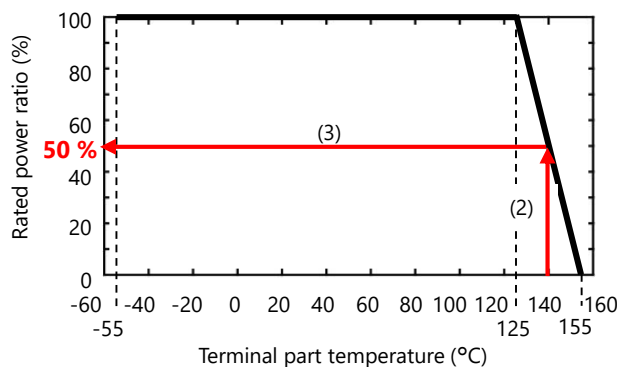

Fig. 7 Derating curve for flat chip resistor (example)
Every resistor has a usable temperature range. And heating results as power applied to resistors. So, it is necessary to manage the applied power and temperature in consideration of the temperature rise so that the limit temperature of the resistors is not surpassed. The derating curve shows the relation between temperature and power that can be applied to resistors. Figure 7 shows an example of a derating curve for a flat chip resistor. The vertical axis represents power that can be applied (rated power ratio), and the horizontal axis represents the temperature of the terminal part of the resistor. For the flat chip resistors of this derating curve, the rated power can be applied until they become 125 °C. When they exceed 125 °C, it is necessary to reduce power in response to the temperature. So, you need to pay attention to the temperature of the terminal part since it varies with the pattern and components mounted on the PWB.
- (1) The flat chip resistor, of which the adequacy is to be verified, is of 0805 size, and the applied power is 0.1 W. The terminal part temperature of the resistor is 140 °C, when power is applied to the resistor.
- (2) A vertical line is drawn from the position of 140 °C on the horizontal axis and the point intersecting with the derating curve is found (Fig. 7(2)).
- (3) A rated power ratio is found by drawing a straight line leftward from the intersection point (Fig. 7(3)). In this example, 50 % of rated power can be applied to the flat chip resistor.
- (4) As the applied power is 0.1 W, the rated power necessary for the resistor is more than $0.1 \text{ W} \div 0.5 = 0.2 \text{ W}$. Since the rated power for 0805 size is 0.25 W, it can be used for this circuit.